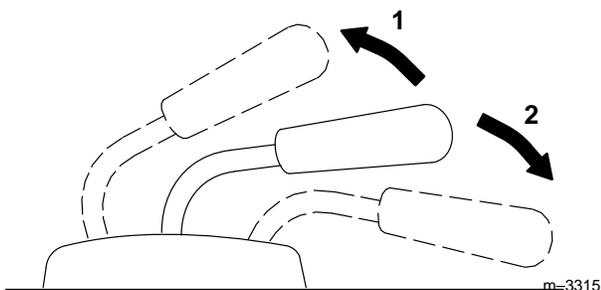

Figure 17
2. Pull the lift lever UP to raise the attachment (Fig. 17). This will lift and hold the attachment in the raised position.
2. Push the lift lever DOWN to lower the attachment (Fig. 17).